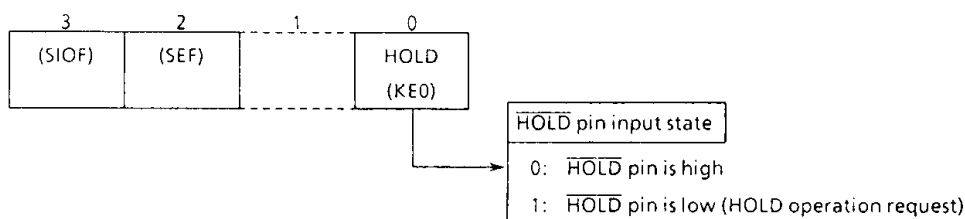

Figure 5-1. HOLD Operating Mode Command Register/Status Register
- (1) The oscillator starts.
- (2) Warm-up is performed to acquire the time for stabilizing oscillation. During the warm-up, the internal operations are all stopped. One of three warm-up times can be selected by program depending on the characteristics of the oscillator used.
- (3) When the warm-up time has passed, an ordinary operation restarts from the instruction next to the instruction which starts the HOLD operation. At this time, the interval timer starts from the reset state "0".
*Note.* The warm-up time is obtained by dividing the basic clock by the interval timer, so that, if the frequency at clearing the HOLD operation is unstable, the warm-up time shown in Figure 5-1 includes an error. Therefore, the warm-up time must be handled as an approximate value.